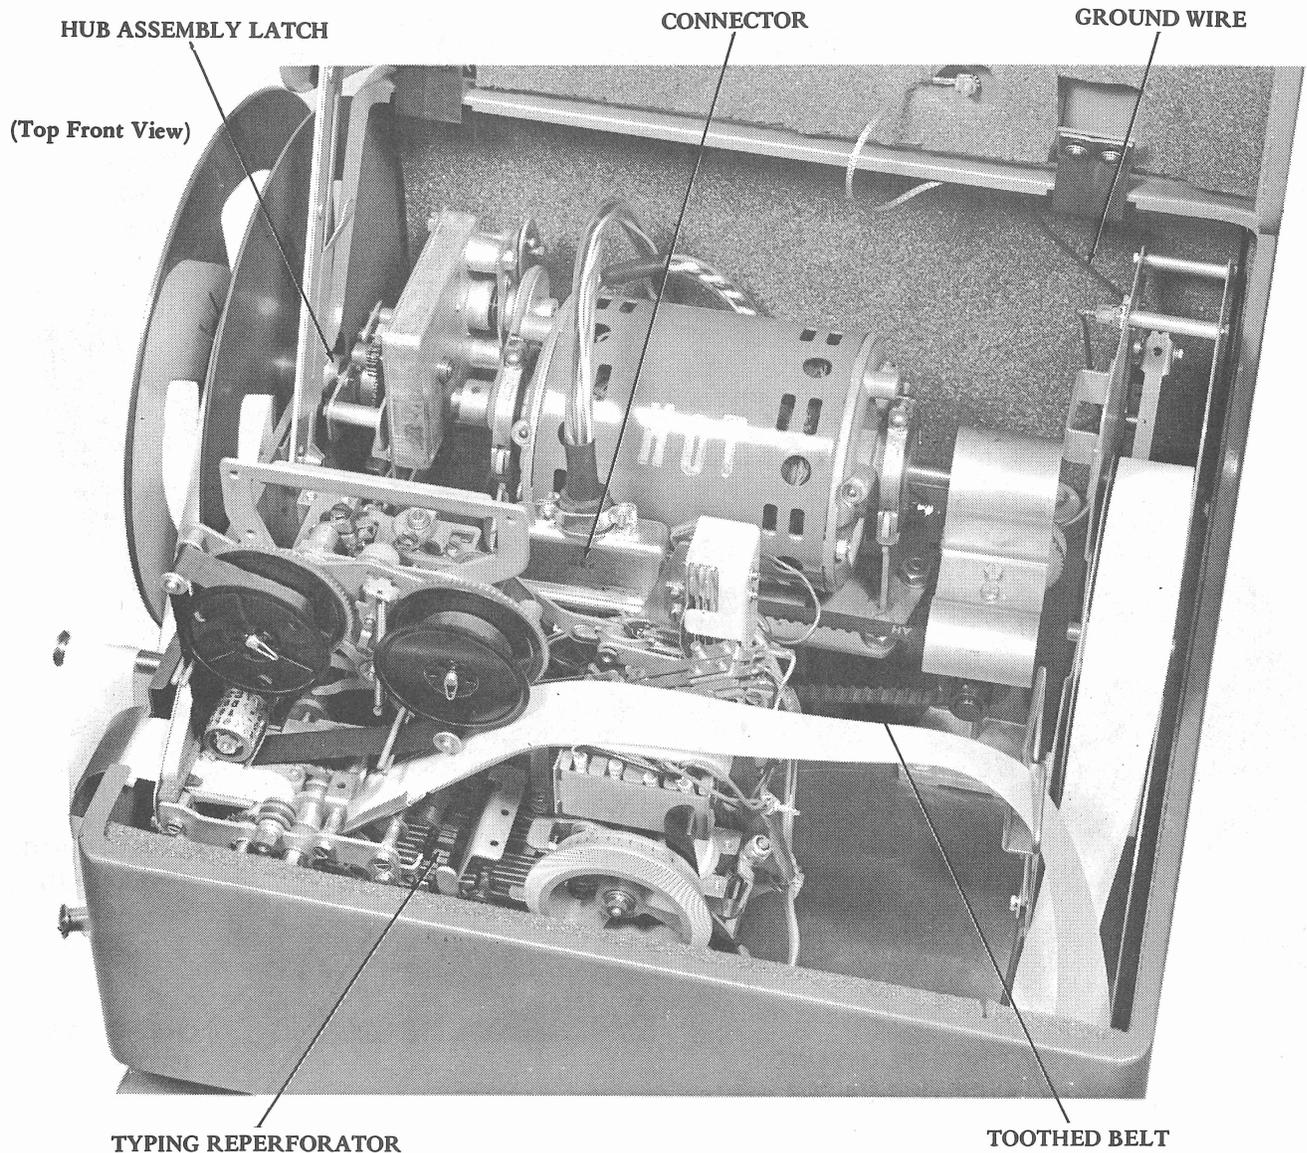

Figure 3 - 37 ROTR With Cover Open
2.02 To remove the typing reperforator from the base (Figures 3, 4, and 5), proceed as follows.